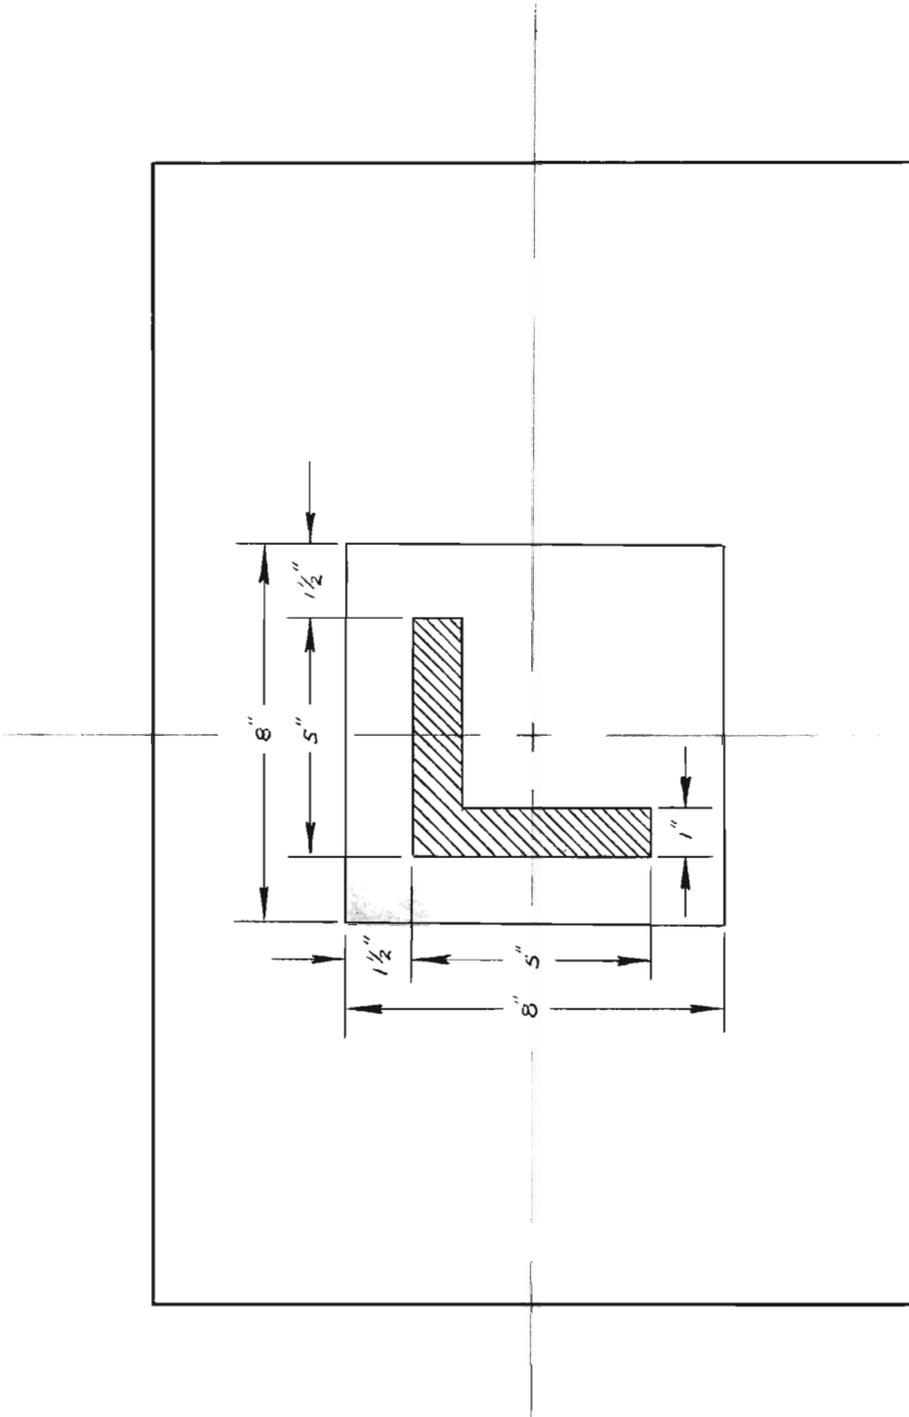

Figure 1
a) during the adhesion test, a 5" X 5" X 1" wide "L shaped" void should be removed from the liner, and an 8" X 8" patch should be tested for adhesion over top of the void, instead of the 4" X 4" patch over no void (figure 1). This would make the qualification test more realistic since there is always some degree of damage area under the patch in service. Damage due to rips or tears in cargo liners typically follows the perpendicular axis from the point of puncture, causing an L shaped damage pattern.